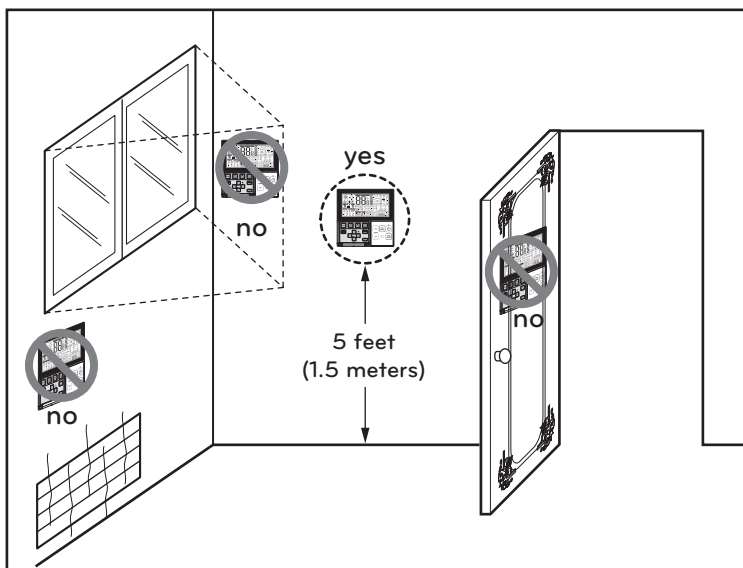

Fig.1 Typical locations for remote controller
- This remote controller is equipped with a seven segment LED. display. For proper display of the remote controller LED's, the remote controller should be installed properly as shown in Fig.1. (The standard height is 1.2~1.5 m from floor level.)
- For the Distributor Type Models the installation piping is connectable in four directions.(refer to figure 1)